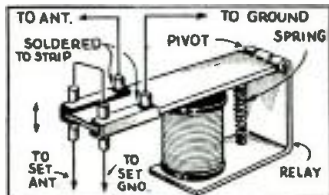

Fig. 5, above. Automatic protector.
**AUTOMATIC LIGHTNING PROTECTOR.** A set is often damaged by a heavy charge picked up in a long antenna, even though the lightning strikes a good distance away. The relay shown in Fig. 5 automatically disconnects the aerial and ground from the set, when it is not in use, and grounds the antenna directly. It may be operated from any circuit in the set where the power for the relay can be obtained.